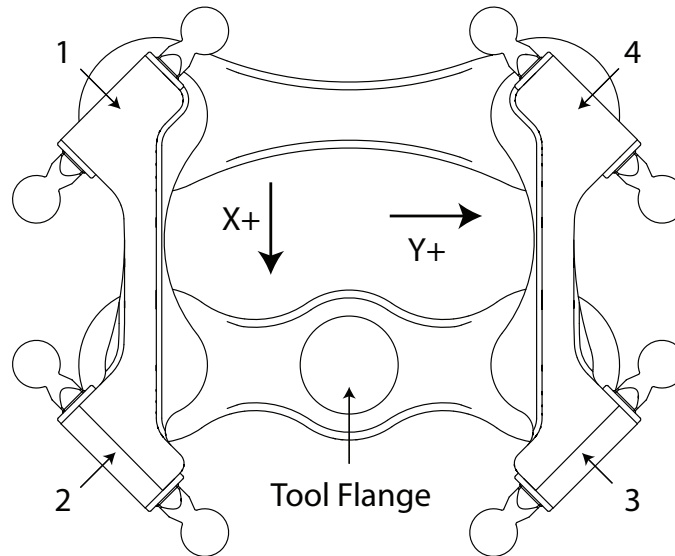

Figure 2-7. Platform Orientation, P31 Platform
- Electroless nickel platforms are not labeled. Refer to Figure 2-7.